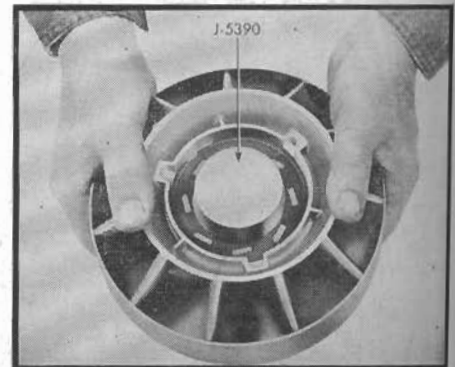

Fig. 22 Use of loading tool to assemble stator. 1953-59
- Coat stator race and loading tool, J-5930, with a light film of oil. Then place stator race on pilot end of loading tool and carefully rotate stator over tapered end of loading tool and stator race, Fig. 22. Carefully rotate stator in free wheel direction (clockwise) to eliminate possibility of dislocating cam rollers.